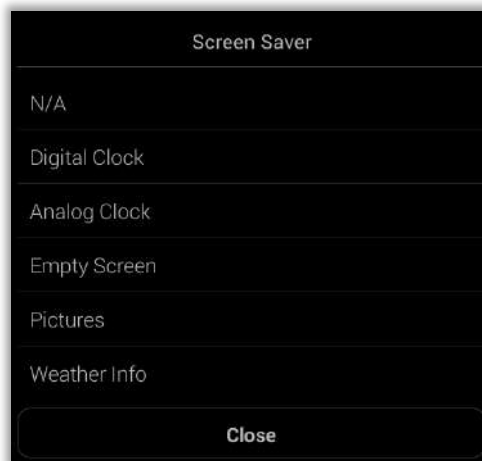

Fig. 66 : Screen Saver List
- 2 By pressing this touch button, the screen saver type is set. After pressing the button, the screen saver type list in Figure 66 is displayed.